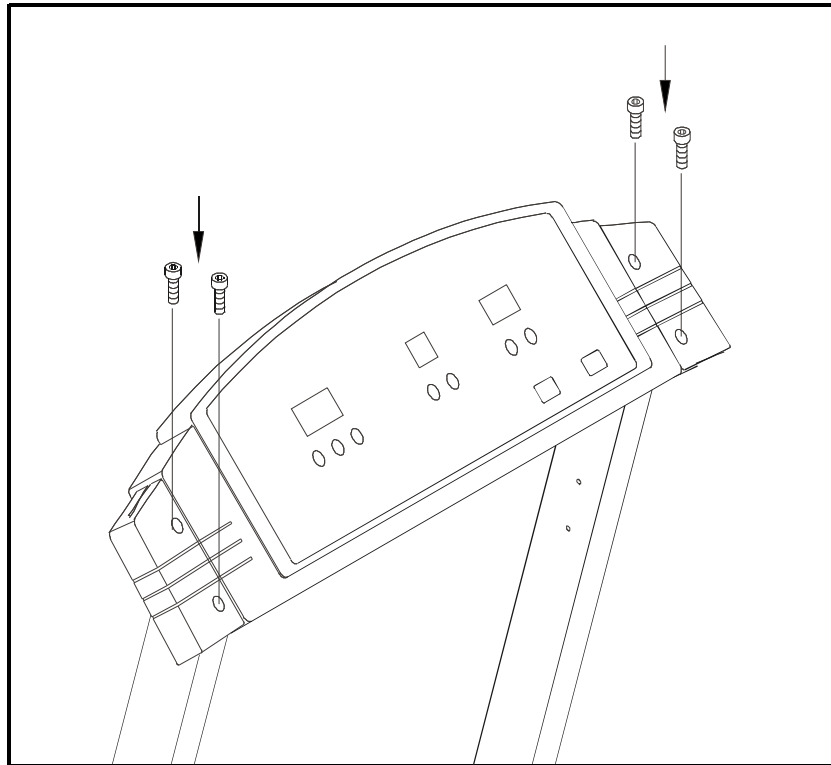

Fig.4
6. Attach the handlebars or the end of the handrails to their holders, do not tighten the bolts yet (see Fig. 4).